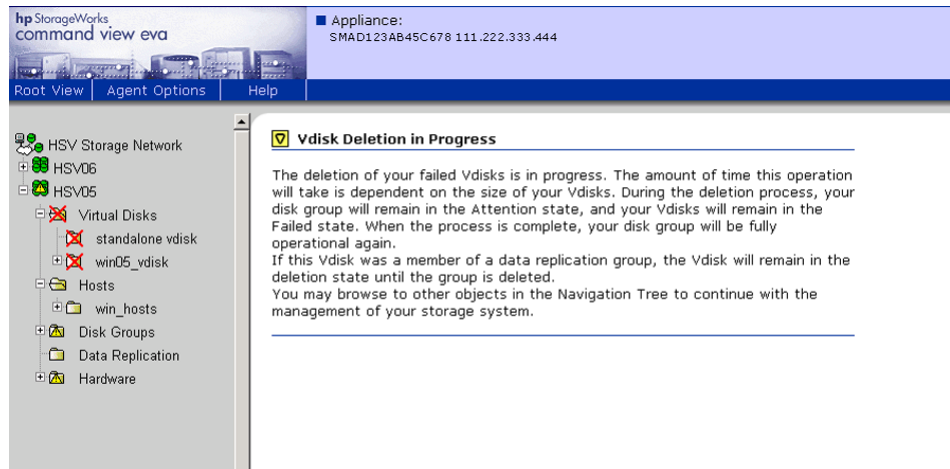

Figure 54: Vdisk Deletion in Progress message
8. Click failed Vdisks that were members of the affected DR groups. A message is displayed (Figure 54) while Vdisks are being deleted.